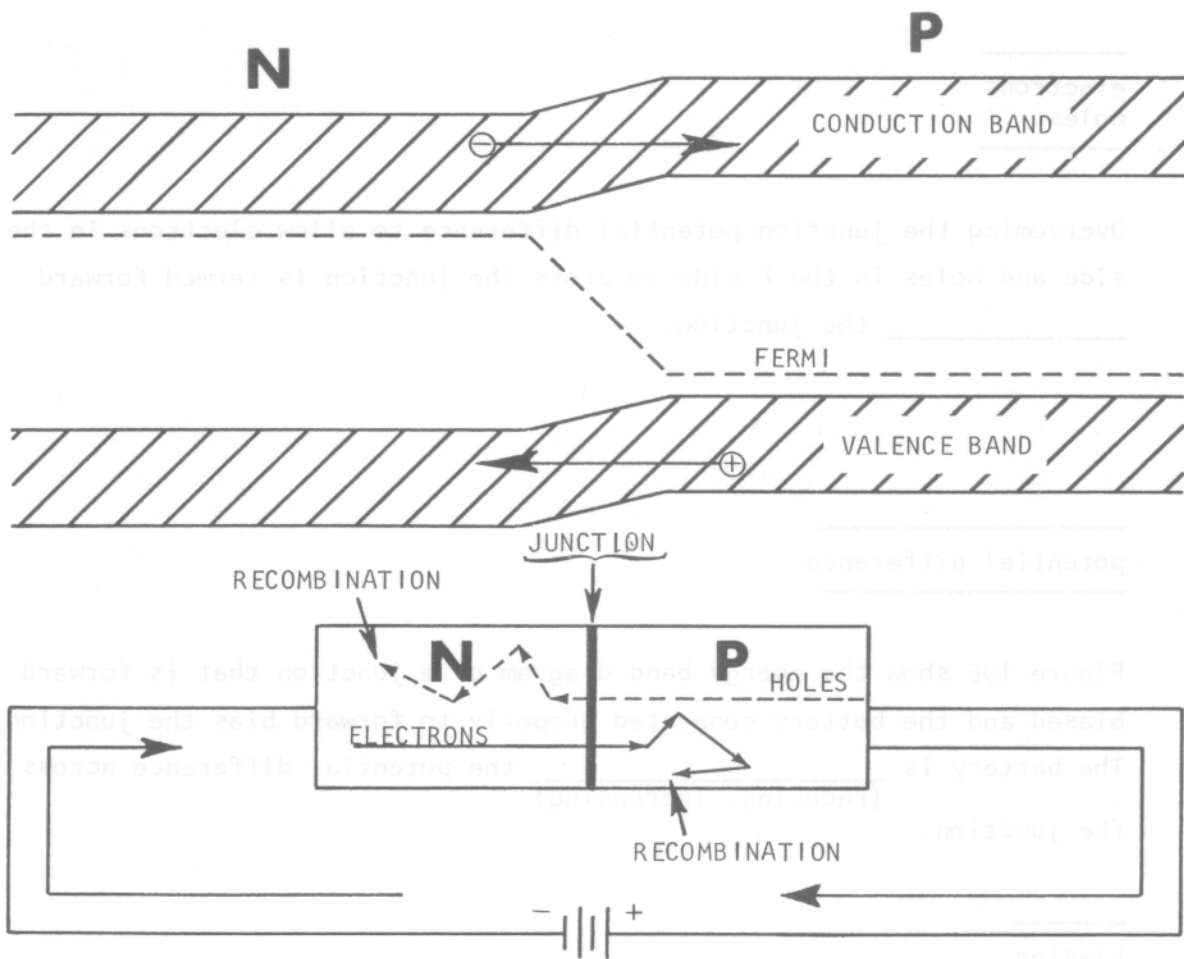

FIGURE 19B FORWARD BIAS
19.7 In figure 19B, the positive terminal of the battery is reducing the negative ionic charge of the P side and the negative terminal of the battery is _____ the positive ionic charge of the N side. This (increasing, reducing) is _____ bias.
19.8 Forward bias enhances the movement of electrons from the N side into the P side. An electron leaving the N side to cross the junction will be replaced from the negative terminal of the battery in figure 19B. Electrons move from the negative terminal of the battery through the _____ band of the N side and move into the _____ side.
19.9 Holes crossing the junction from the valence band of the P side to the valence band of the N side in figure 19B must be replaced from the positive terminal of the battery. A _____ is formed or injected at the battery contact with the P side by removing an electron. An _____ leaves the P side and moves to the positive terminal of the battery when a hole is formed or injected.